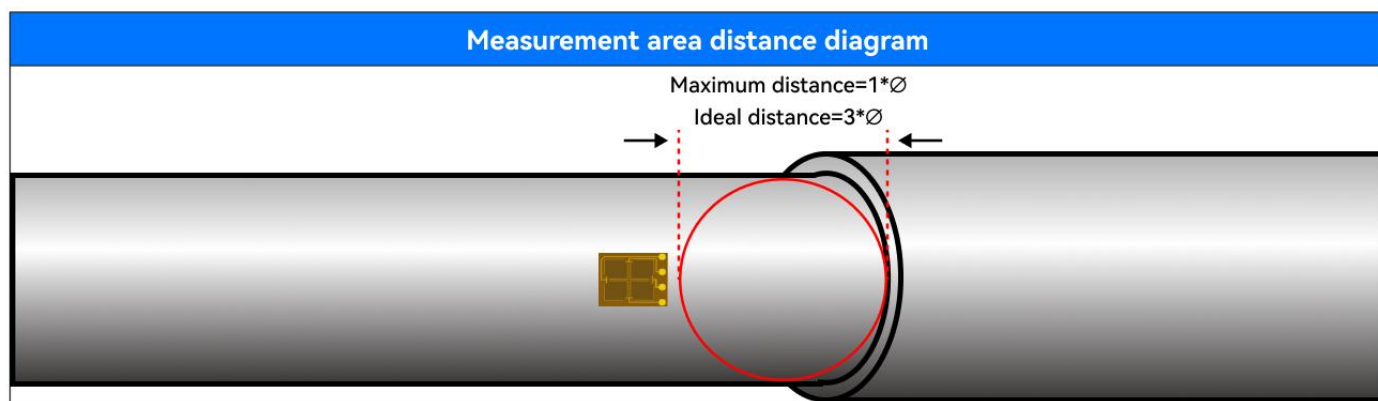

Figure 3.12
3. Measure the diameter of the shaft. Ideally, the measurement area should be 3 times the diameter of any obstacles, shaft profile changes, or joints, and where possible not less than one shaft diameter, as shown in Figure 3.12.